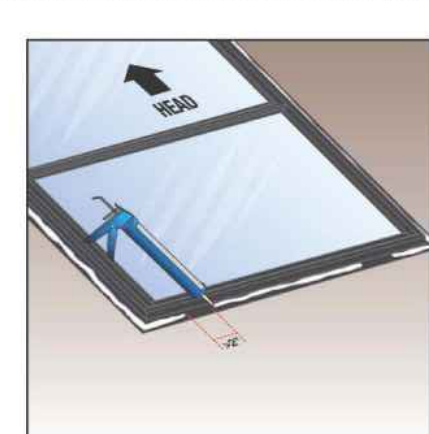

FIGURE 13
7.3.3 Apply a discontinuous bead of sealant on the interior surface of the mounting flange at the sill. The bead of sealant shall be discontinuous, leaving two 90 mm (2 in) wide within 100 mm (4 in) of each jamb (see Figure 13). Any alternative to the discontinuity in the bead of sealant at the exterior sill area shall be approved by the window manufacturer.
**7.4.2** Treat the rough opening wood sill area with a water resistant coating or a self-adhering flashing membrane to prevent absorption of liquid water. Cover the entire sill area and at least 100 mm (4 in) up the jambs and integrate with the WRB below the sill for non-grade doors (see Figure 13). The water resistant coating or flashing membrane shall provide a water resistant seal around malle or fasteners as described in Section 5.2 of AAMA 714 for liquid applied flashing or AAMA 711 for self-adhered flashing. The water resistant coating or membrane shall be applied in accordance with the manufacturer's recommendations.